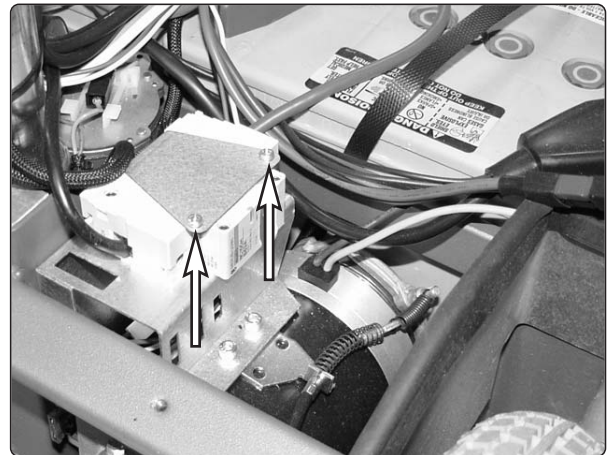

Fig.50. Circuit breaker fixings.
5. Remove the circuit breaker by removing the two screws, see fig. 50.
8. Attach the new circuit breaker with the two screws, see fig. 50.